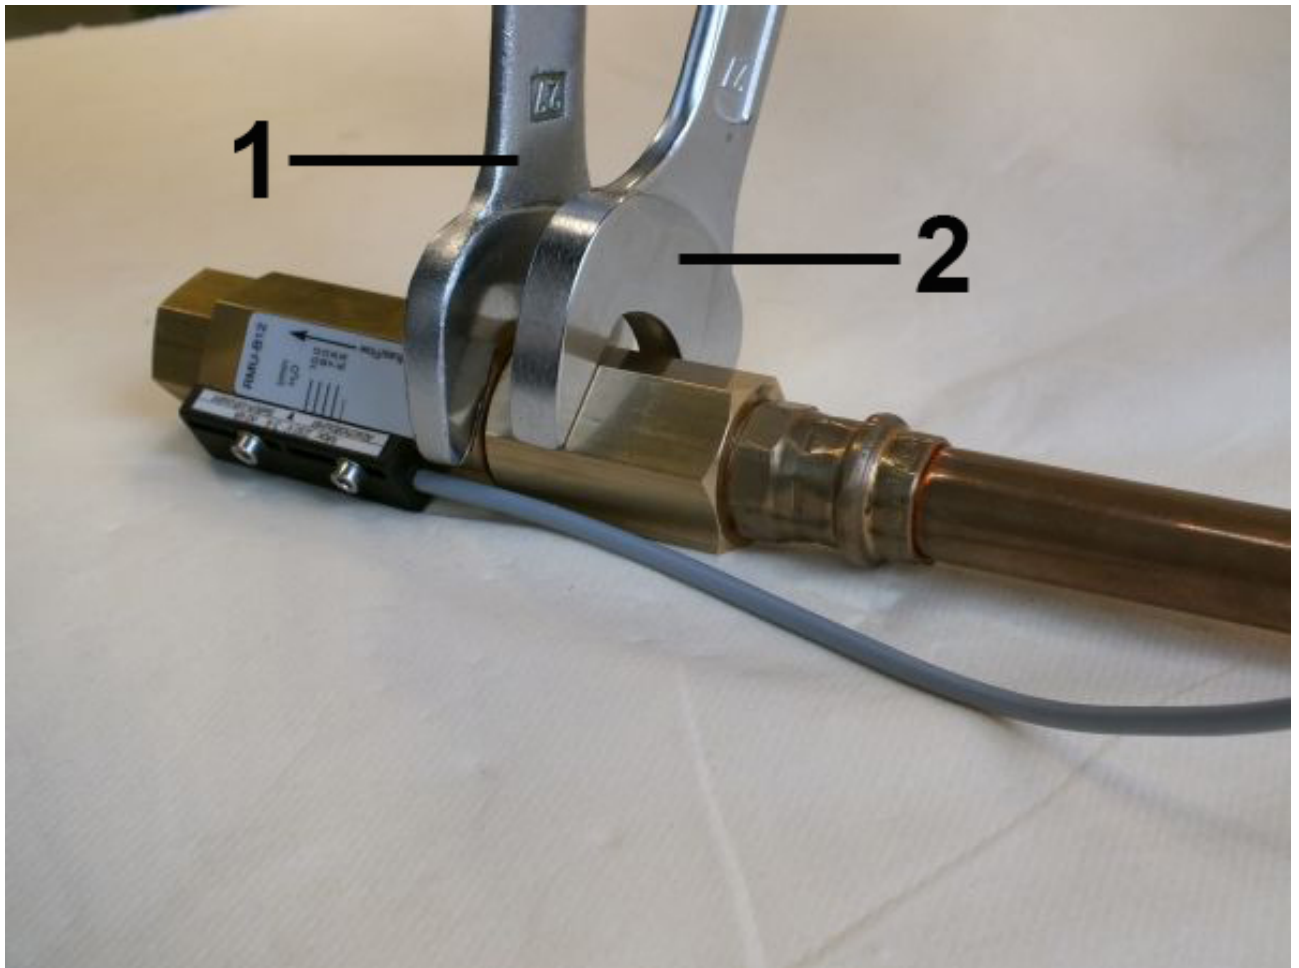

Fig. 14: Screw in the device (inlet)
3. ➔ Keep turning in the adapter union (Fig. 14/2) while holding the device body locked (Fig. 14/1) until the connection is tight.